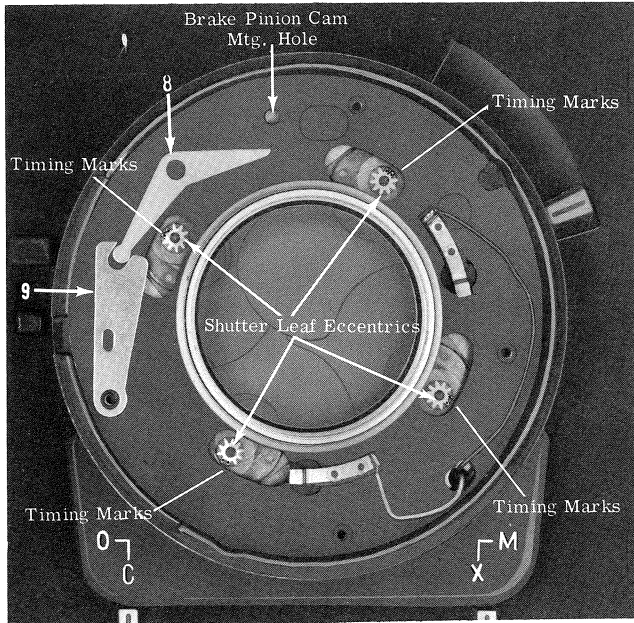
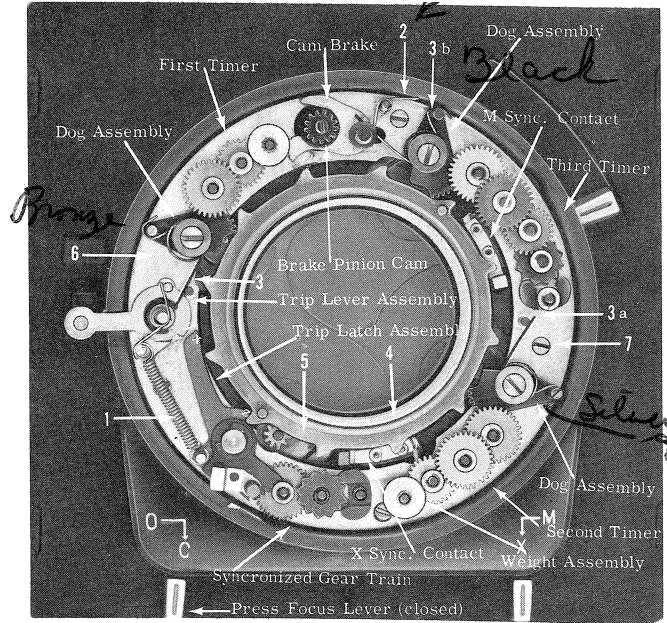

Figure 12.
Figure 13.
a. Place cable release lever (9, Figure 12) and trip lever (8) over machined bosses on front housing.
c. Before assembling control plate complete (6, Figure 13) into front housing, apply a thin coat of lubricant (39484P8) to all surfaces of brake pinion cam. Position control plate so that brake pinion cam locates in mounting hole in front housing (Figure 12), and post on trip lever assembly (Figure 13) locates in slot in cable release lever (9, Figure 12). Apply sealant (39491P4) to threads of four screws (7, Figure 13) and secure control plate.
e. Locate timing marks on four shutter leaf eccentrics (Figure 12) so that centerline between timing marks of each eccentric is visually aligned to center of shutter. Timing marks on each eccentric should point directly toward outside of housing. Apply a thin coat of lubricant (39484P2) to
inside diameter and bottom surfaces of drive gear assembly (5, Figure 13). Position three dog assemblies away from center opening, and assemble drive gear so that front face of a tooth containing a spring post is against surface (z) on trip lever assembly. Do not allow any other lubricant to contact drive gear. Assemble drive gear bearing (4) with step facing up.